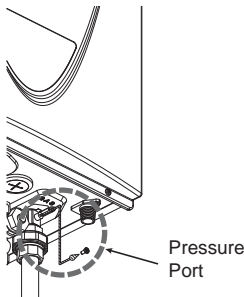

Figure 46. Location of Pressure Port
2. Remove the screw from the pressure port which is located on the gas inlet of the water heater shown in **Figure 46**.